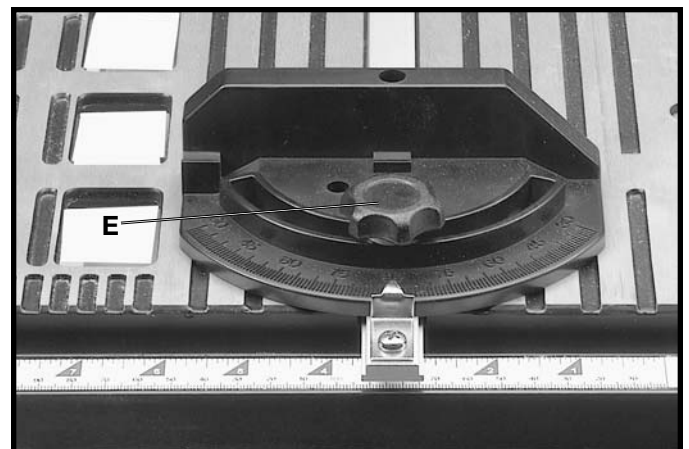

Fig. 31
To operate the miter gage, simply loosen lock knob (E) Fig. 31, and move the body of the miter gage to the desired angle.